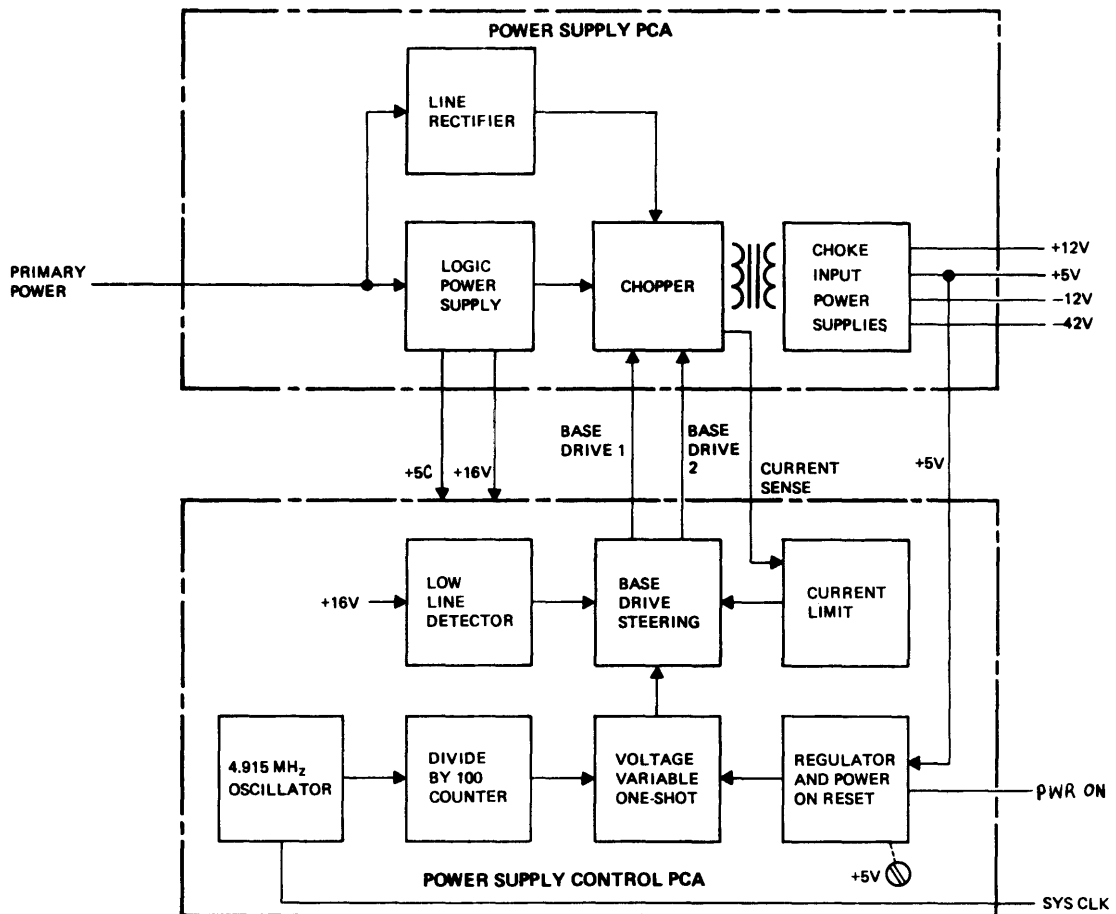
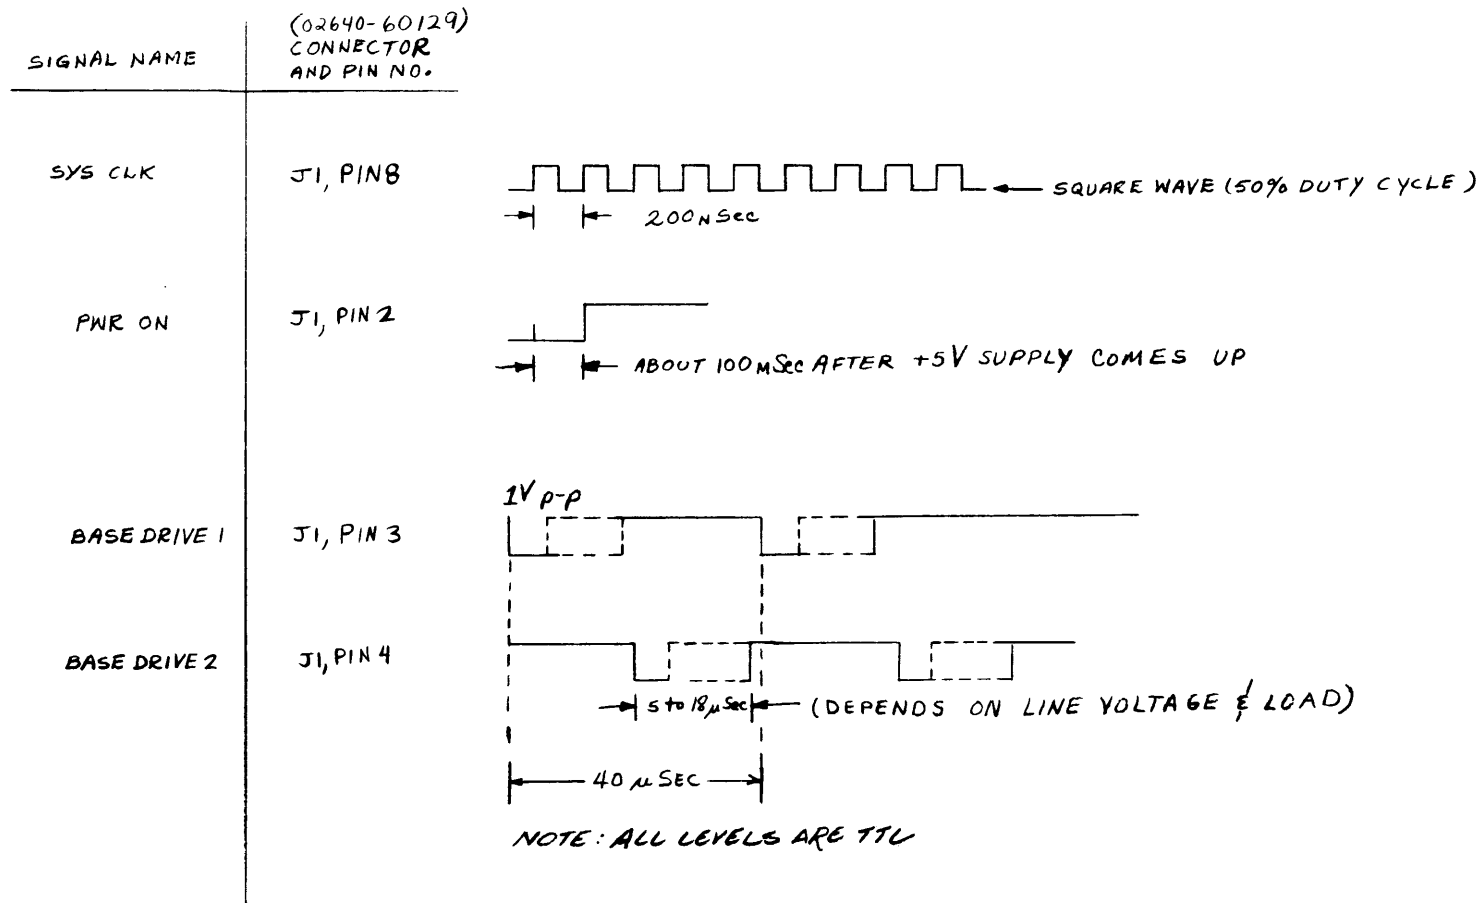
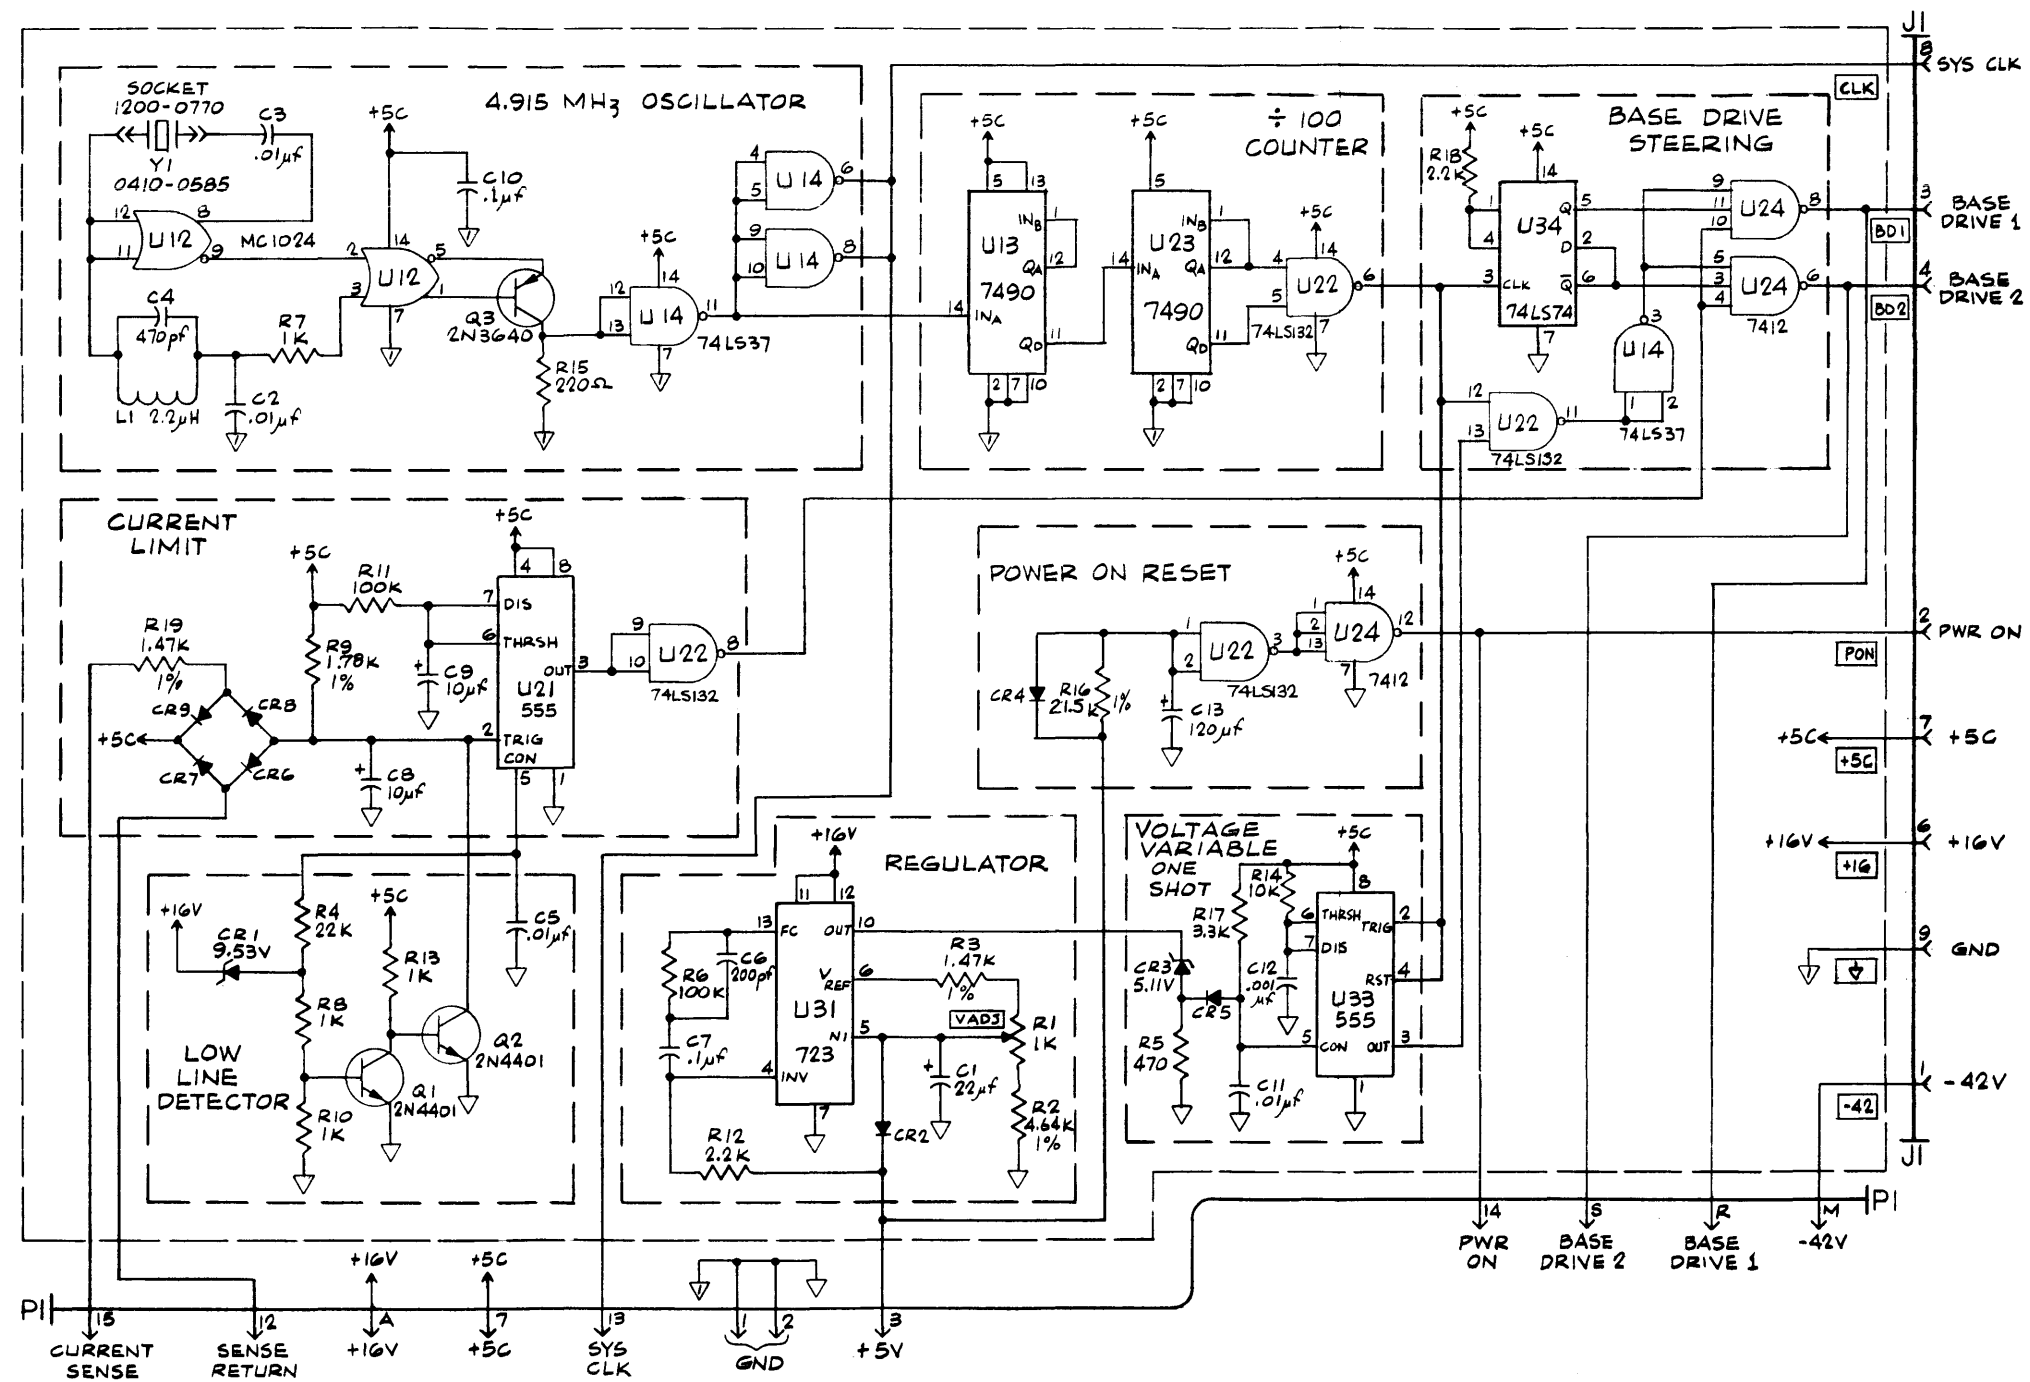
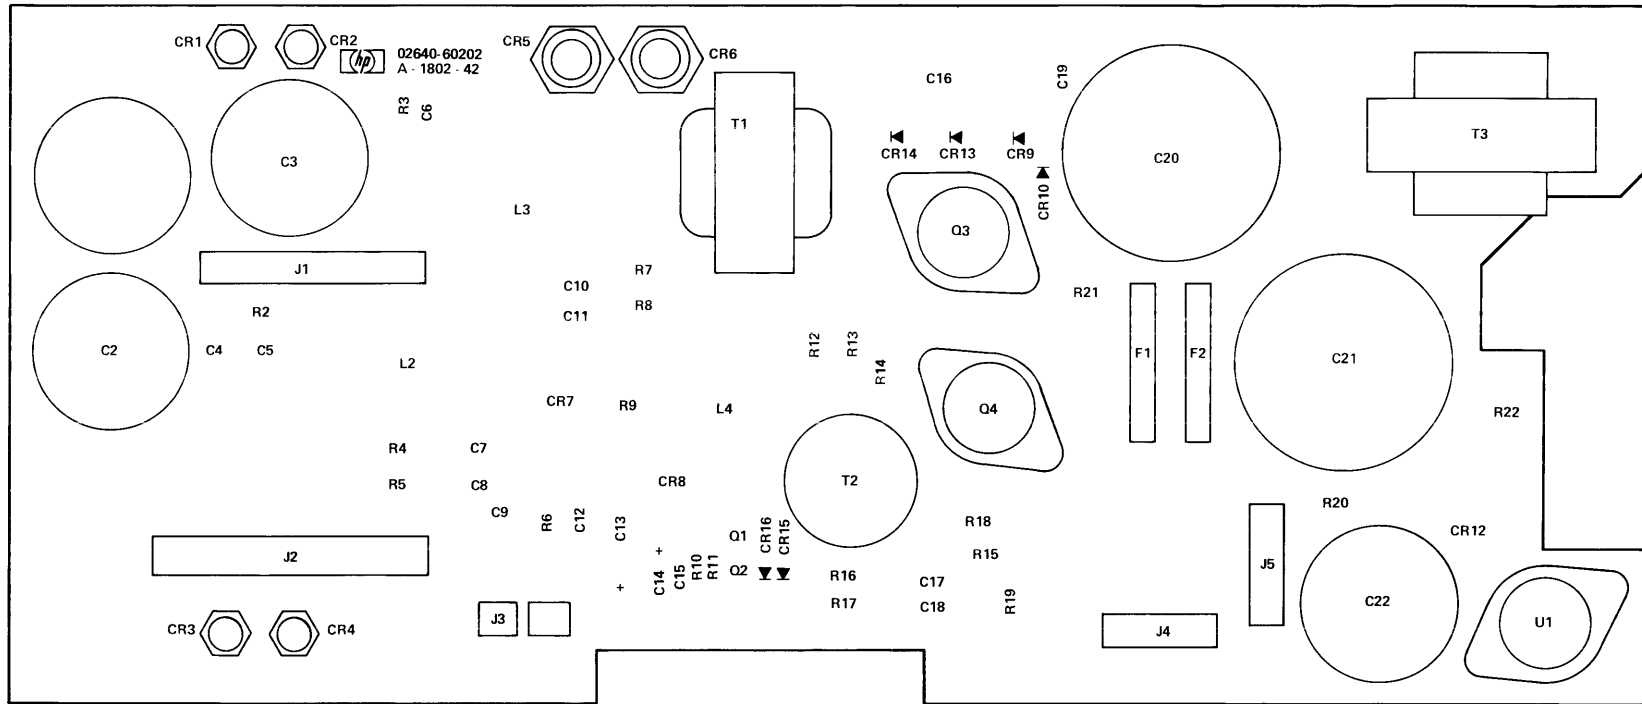

Figure 1
Figure 4
Figure 2
Figure 5
3.0 FUNCTIONAL DESCRIPTION. Refer to the module block diagram (figure 1), schematic diagrams (figures 2 and 3), timing diagram (figure 4), component location diagrams (figures 5 and 6), and parts lists (02640-60169, 02640-60202, 02640-60203, and 02640-60148) located in the appendix.
This block contains four independent choke input power supplies. In each, the pulse output of the power transformer is rectified and applied to a filter choke and then to a filter capacitor. The output voltages are as shown on the block diagram in figure 1. Note that only the +5 volt supply is sensed and regulated by the Power Supply Control PCA. The other voltages track the sensed supply and are kept within their accuracy tolerances without actually being sensed and regulated independently.